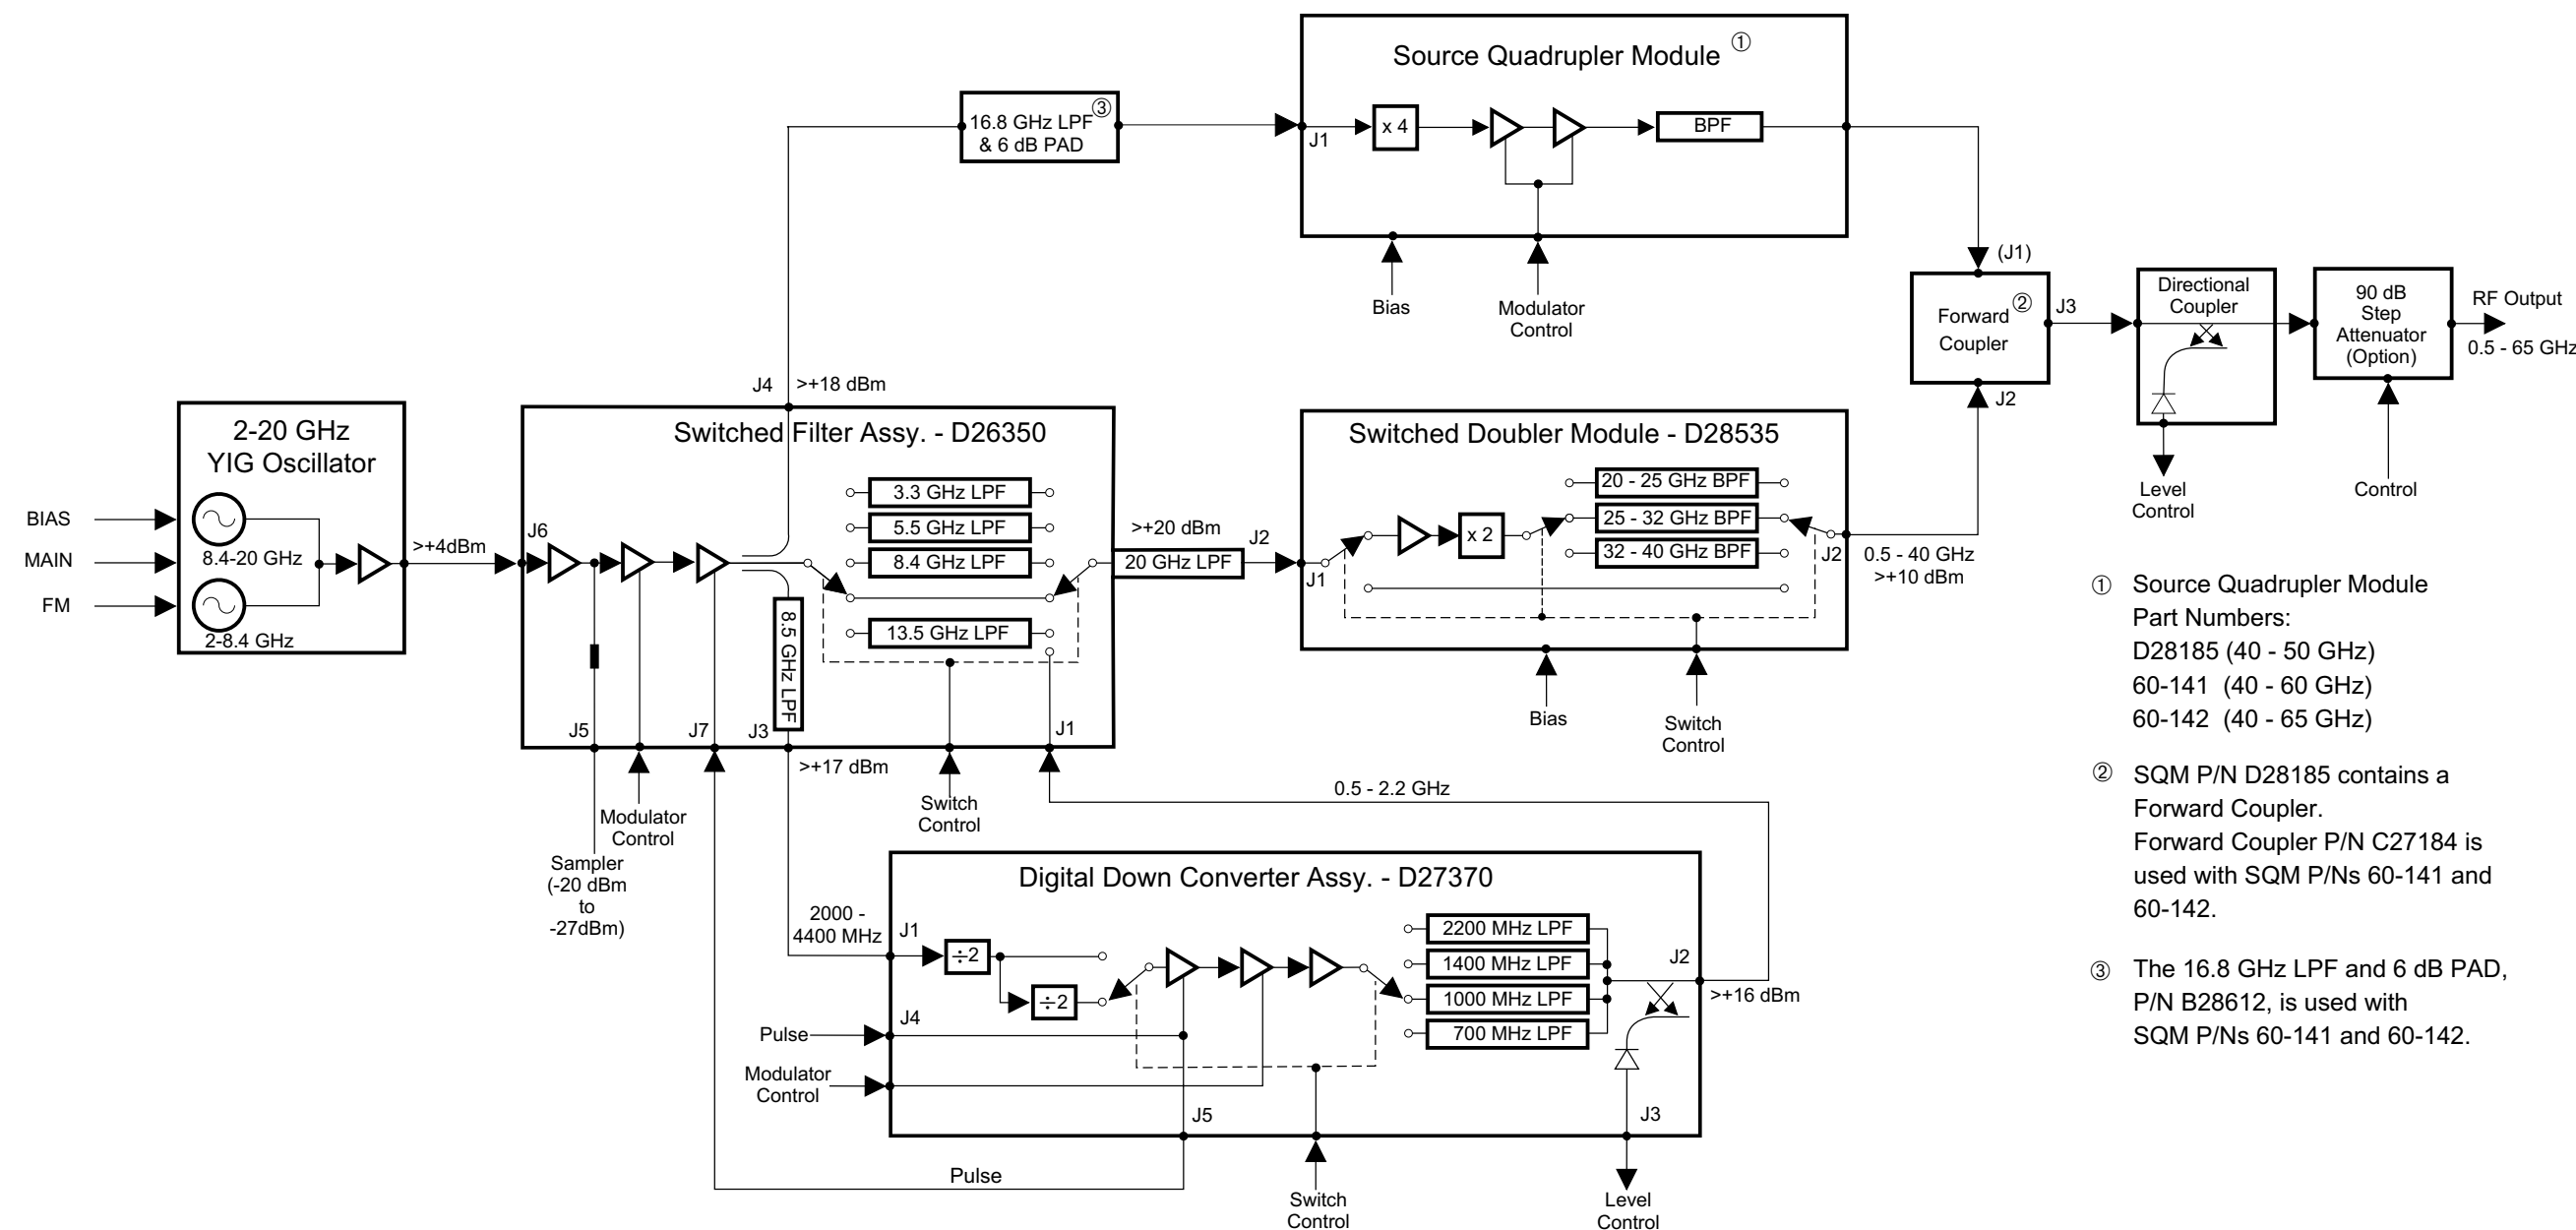

Figure 2-7. Block Diagram of the RF Deck Assembly for all >40 GHz 682X5B/683X5B Models
- ❑ Figure 2-7, page 2-28, is a block diagram of the RF deck assembly for all > 40 GHz 682X5B/683X5B models.